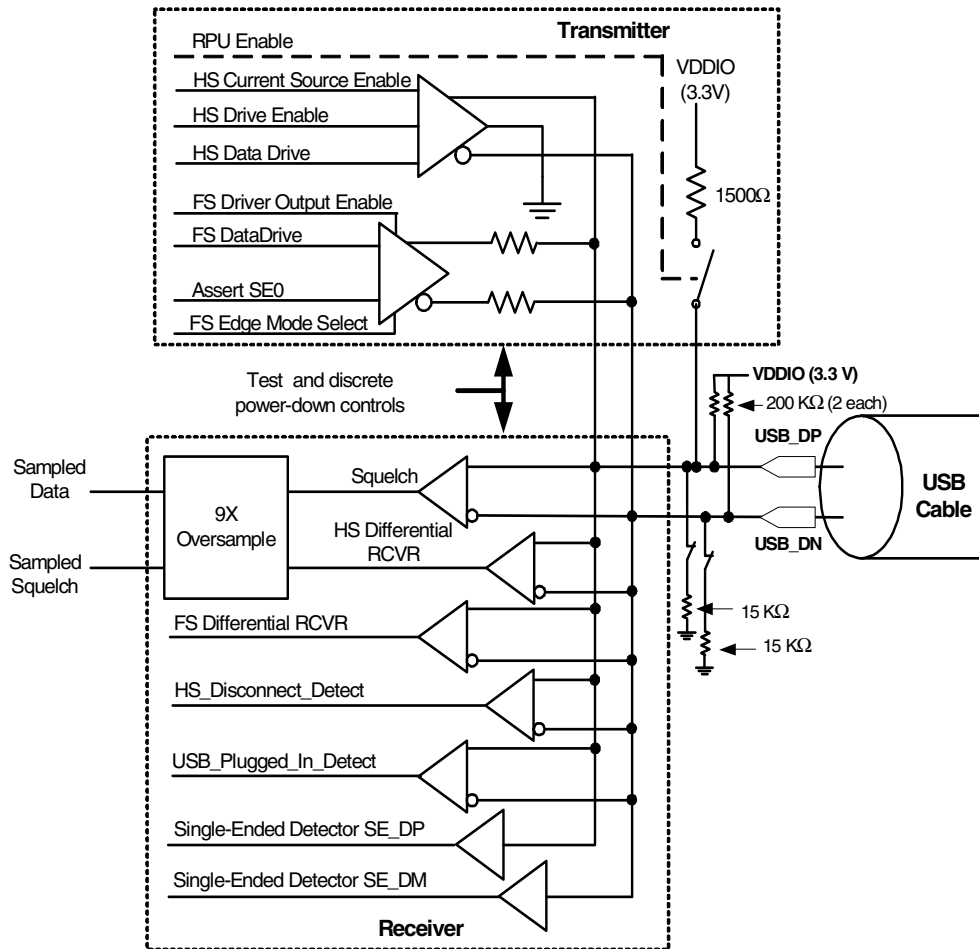

Figure 9-2. USB 2.0 PHY Analog Transceiver Block Diagram
- The analog transceiver section comprises an analog receiver and an analog transmitter, as shown in Figure 9-2.
The analog receiver comprises five differential receivers, two single-ended receivers, and a 9X, 480-MHz HS data sampling module, as shown in Figure 9-2 and described further in this section.
The analog transmitter comprises two differential drivers: one for high-speed signaling and one for full-speed signaling. It also contains the switchable 1.5K Ω pullup resistor. See Figure 9-2.